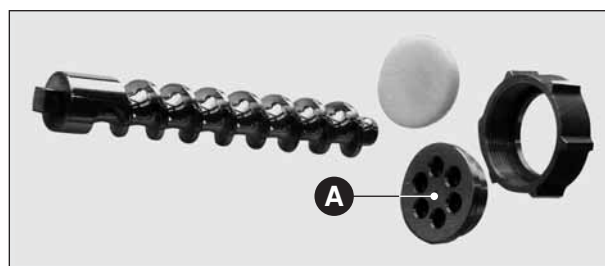

Fig. 15
6.2 CLEANING OF THE ARCHIMEDEAN SCREW, MIXER, RING NUT AND DRAWPLATE (Fig. 15)
The drawplate (**Fig. 15 A**) is to stay in a container with water when it is not in use.